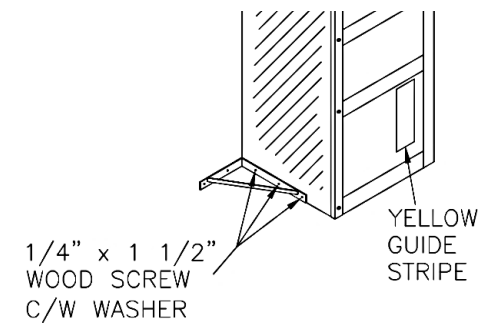

FIG 7A
- If using Stabilizing Bracket (Figure 7a):